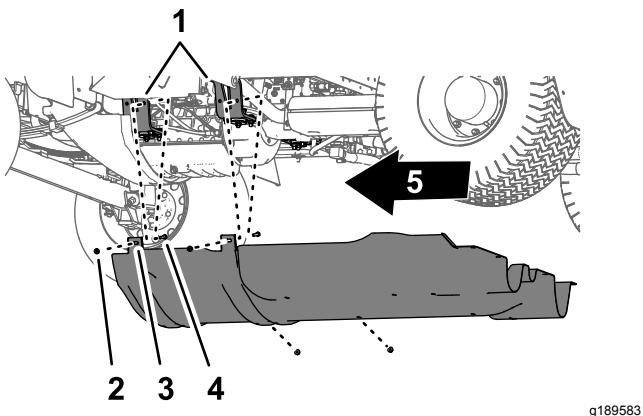

Figure 65
2. Remove the 4 flange locknuts (5/16 inch) from the bolts and carriage bolt that secure the mounting tabs of the undercarriage shroud to the engine-mount brackets of the machine (Figure 65).
4. Remove the undercarriage shroud from the machine (Figure 64 and Figure 65).
1. Align the undercarriage shroud to the bottom chassis of the machine; refer to Figure 65 in Removing the Undercarriage Shroud \(page 50\).
2. Move the mounting tabs of the undercarriage shroud over the bolts and carriage bolt at the engine-mount brackets of the machine; refer to Figure 65 in Removing the Undercarriage Shroud \(page 50\).
3. Assemble the undercarriage shroud to the engine-mount brackets and bolts (Figure 65) with the 4 flange locknuts (5/16 inch) that you removed in step 2 of Removing the Undercarriage Shroud \(page 50\).